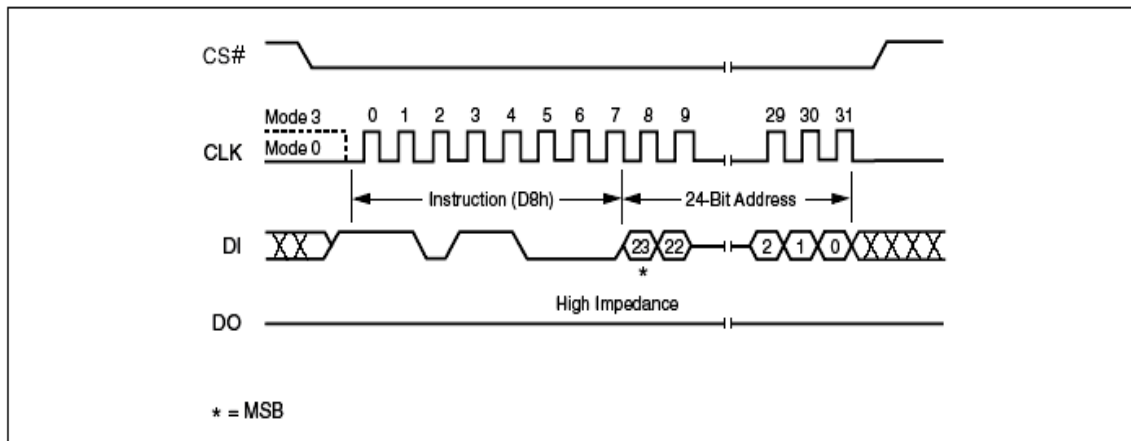

Figure 13. Block Erase Instruction Sequence Diagram
The instruction sequence is shown in Figure 13. Chip Select (CS#) must be driven High after the eighth bit of the last address byte has been latched in, otherwise the Block Erase (BE) instruction is not executed. As soon as Chip Select (CS#) is driven High, the self-timed Block Erase cycle (whose duration is t_{BE}) is initiated. While the Block Erase cycle is in progress, the Status Register may be read to check the value of the Write In Progress (WIP) bit. The Write In Progress (WIP) bit is 1 during the self-timed Block Erase cycle, and is 0 when it is completed. At some unspecified time before the cycle is completed, the Write Enable Latch (WEL) bit is reset.